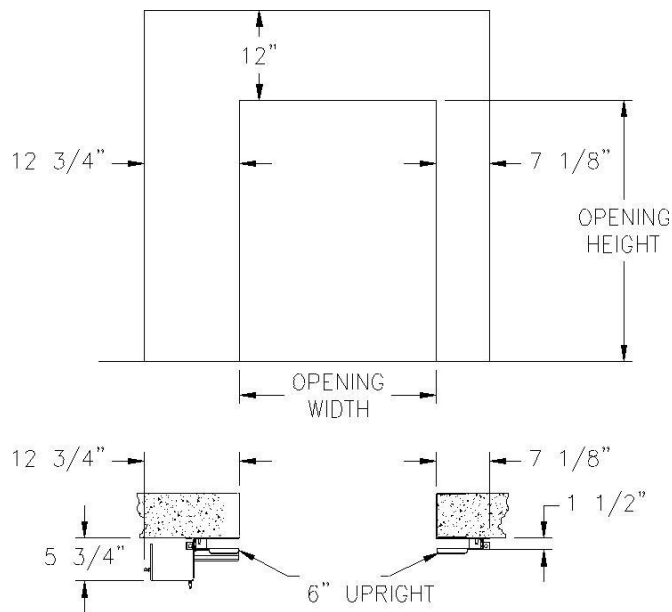

FIG. 1B
- 6'' wide side frame shown in Figure 1b.